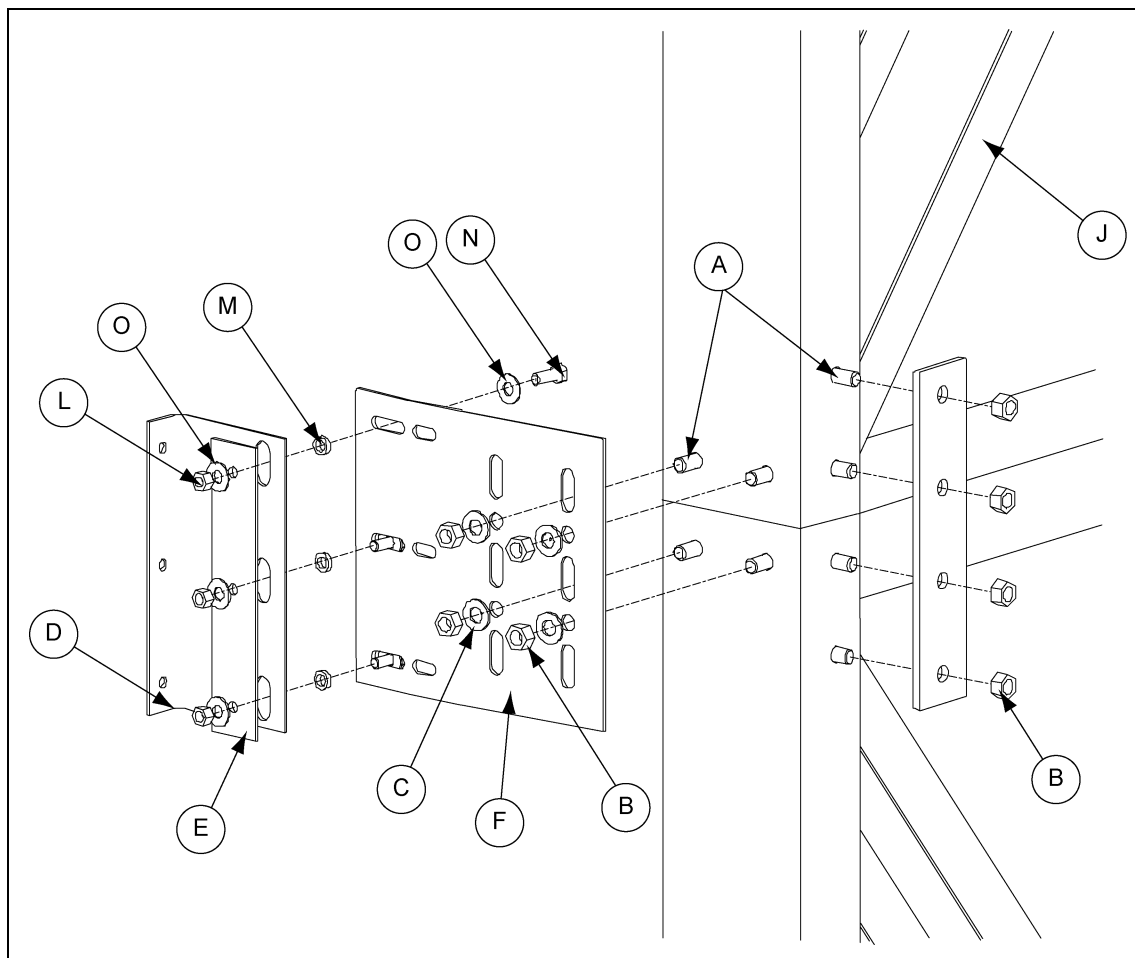

Figure 2Q
5. For “X” bracing where a lateral bracket is used instead of a web plate, see Figure 2Q.